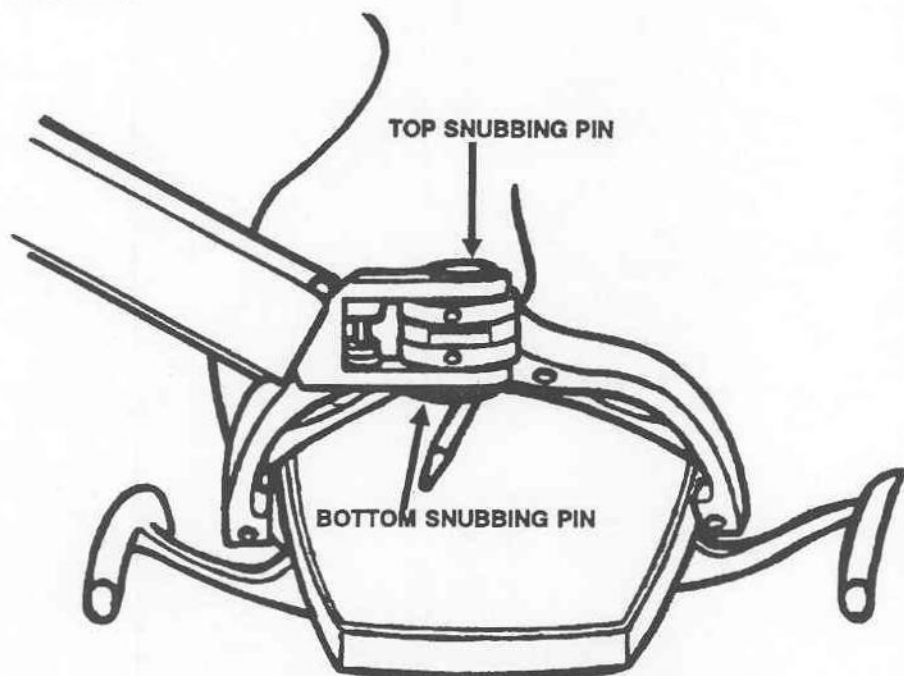

Figure 3-15. Snubbing pin removal.
(9) Remove the top and bottom snubbing pins, springs, and washers using an allen or hex wrench and remove the light head (fig 3-15).